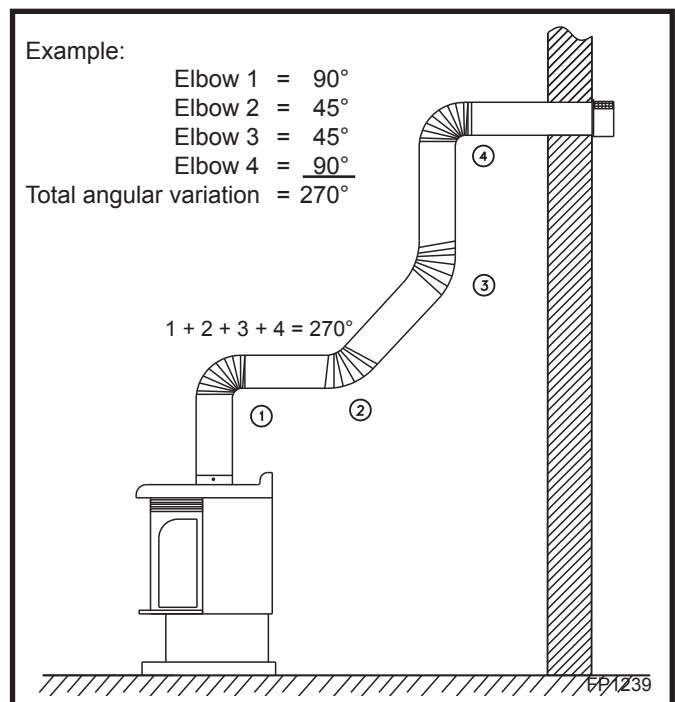

Fig. 12 Maximum elbow usage.
- The maximum number of 45° elbows permitted per installation is six (6). These elbows can be installed in either the vertical or horizontal run.
- The maximum number of elbow degrees in a system is 270°. (Fig. 12)